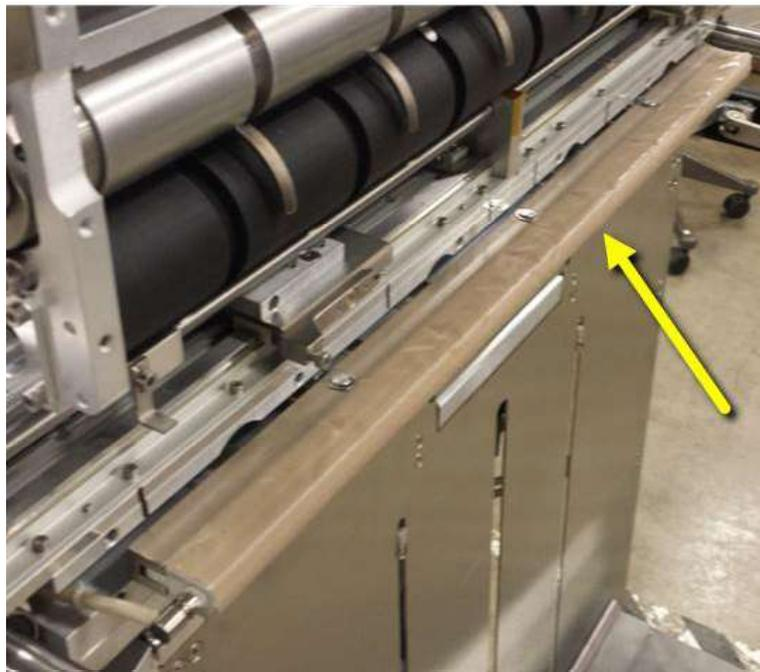

FIGURE 4-22. HEATER BAR EXTENDED, TEFLON® SHEET IN PLACE
1. Press the gray spring lock (Figure 4-22, Item 5) on the bowl downwards.